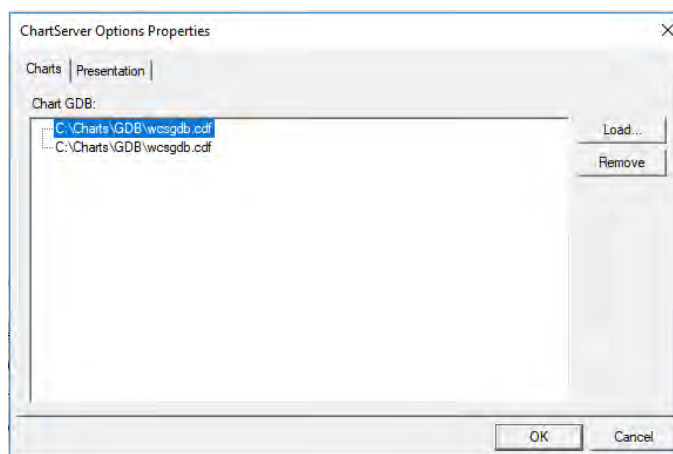

Figure 83: ChartServer Option Properties
5. Click the LOAD button on the ChartServer Options Screen (Figure 83). In the new window, locate the “.CDF” file within the directory tree of the S-63 charts that you are loading.